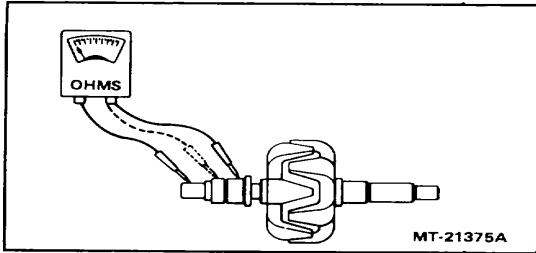

Figure 19 - Rotor Coil Resistance Test.
- Check rotor coil resistance by connecting the ohmmeter across the two slip rings (See Figure 19). The resistance of the rotor should be within the following limits: